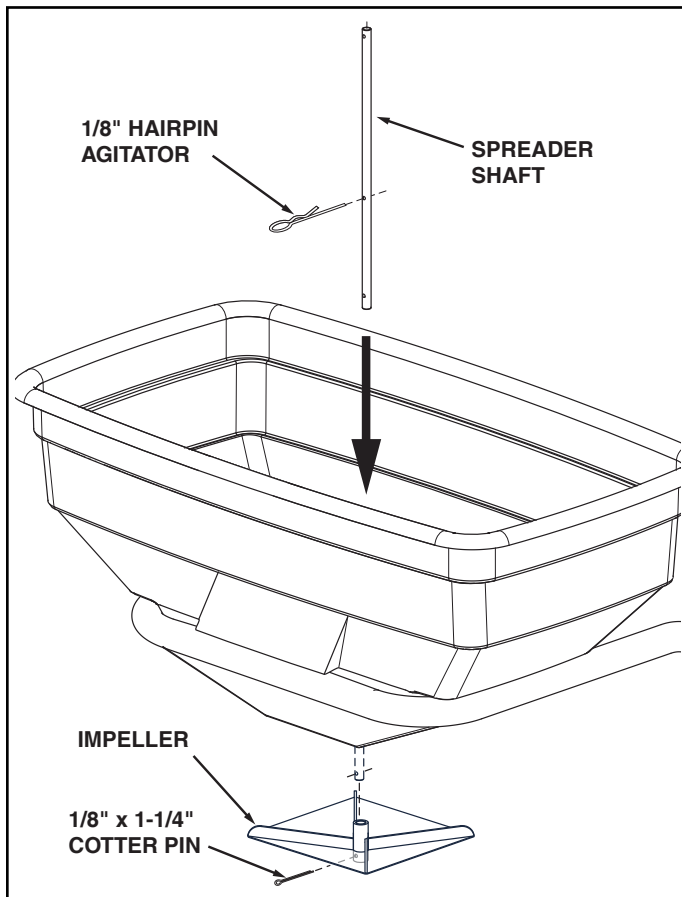

FIGURE 9
- Place the motor assembly down into the hopper, inserting the end of the spreader shaft into the impeller coupler. Secure it with a 1/8" x 1-1/4" cotter pin, spreading the ends of the pin around the coupler. See figure 9.
- Fasten the motor mount bracket to the hopper using four 5/16" x 1" hex bolts, 5/16" flat washers, nylon washers and 5/16" nylock nuts. See figure 9.